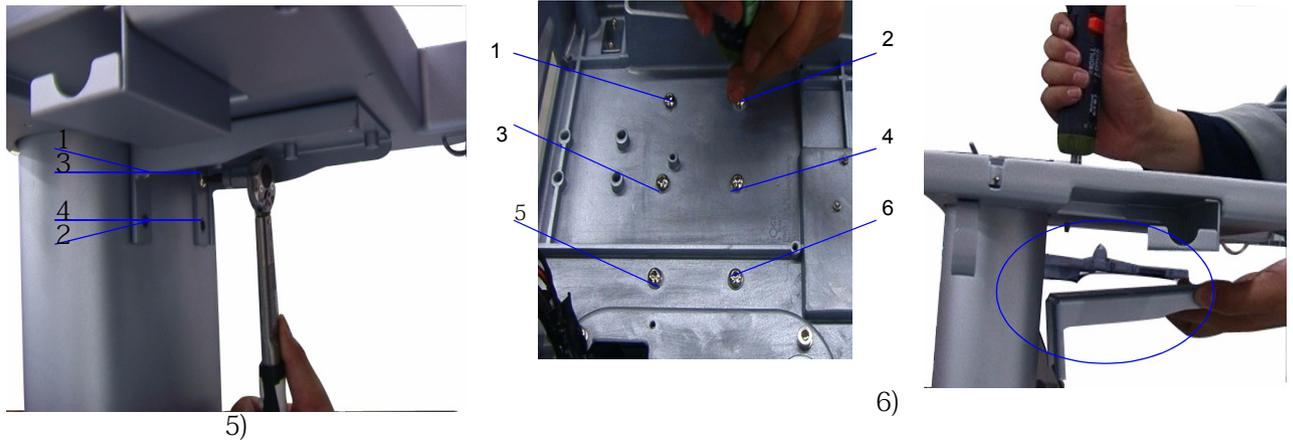

Figure 8-19 Top Support Assy Disassembly
- 5.) Unscrew 4 screws [M6X15], refer to Figure 8-19 on page 35 .
- 6.) Unscrew 6 screws [[M6X15] on Docking Station bottom support assy. Remove top support bracket, refer to Figure 8-19 on page 35 .